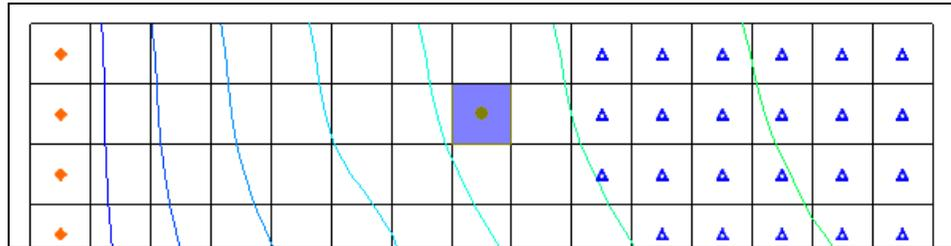

Figure 9 New DRT point
- Using the **Create Point**  tool, create a point in the cell at row 2 column 8 (the cell is highlighted in purple in Figure 9).